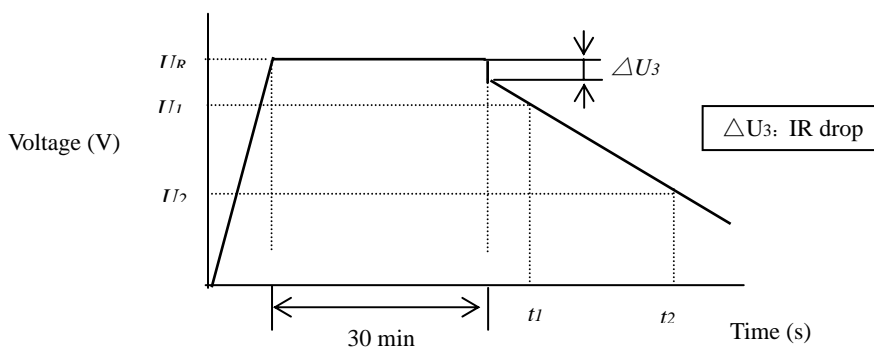

Figure 2: Voltage Characteristics between Capacitor Terminals 图 2: 电容器端电压特征
- 5) Measure the time t_1 and t_2 when the voltage between capacitor terminals at the time of discharge reduces from U_1 to U_2 as shown in Figure 2, and calculate the capacitance value by the following formula:
如图 2 所示，记录放电时电压在 U_1, U_2 的时刻， t_1, t_2 的值，并用以下公式计算容量。